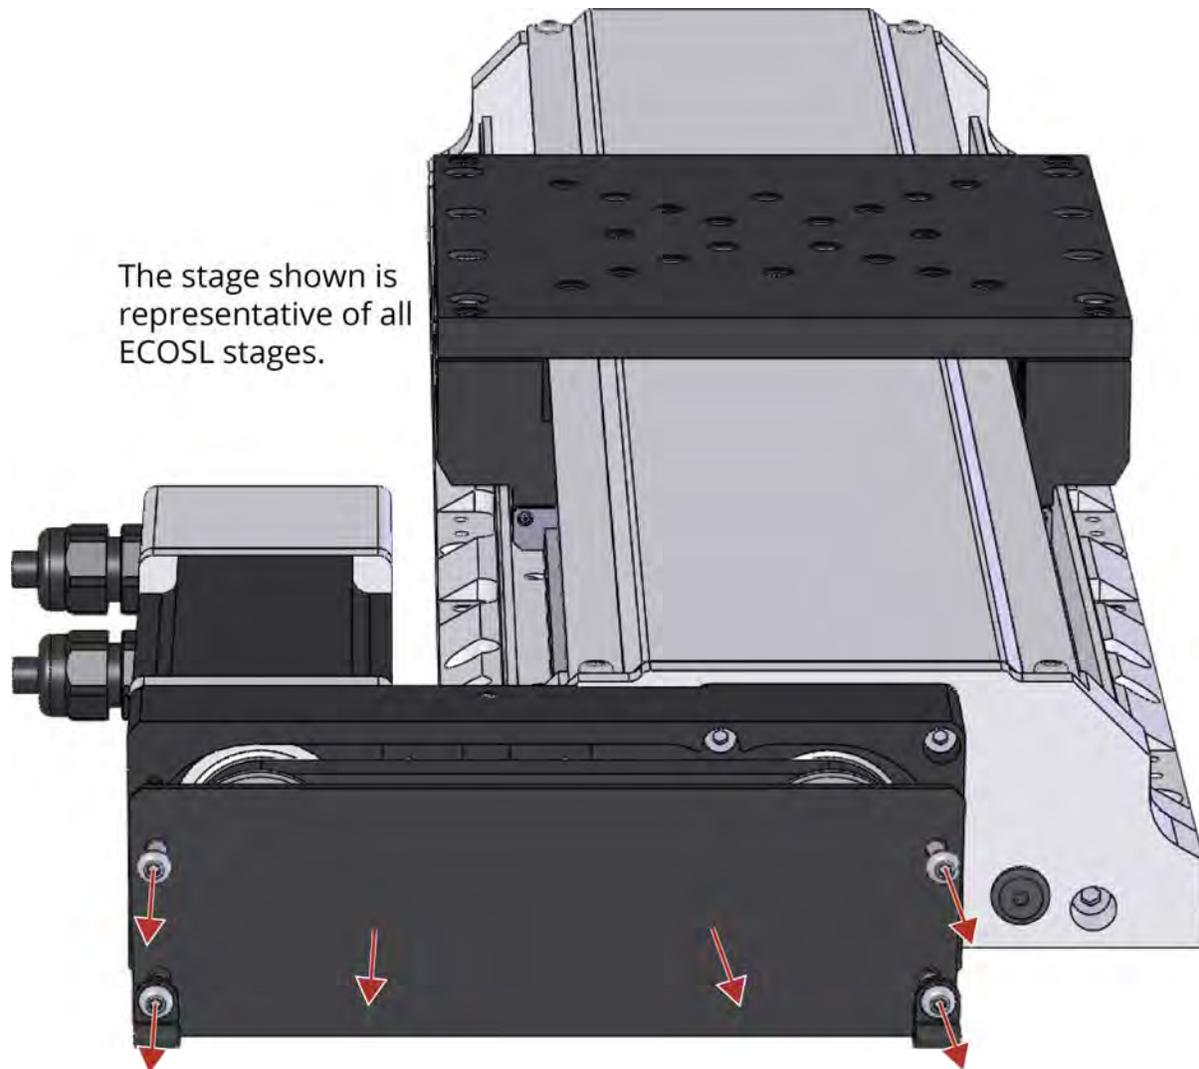

Figure 4-7: Foldback Motor Cover Removal
2. Remove the four mounting screws for the foldback cover (Figure 4-7).